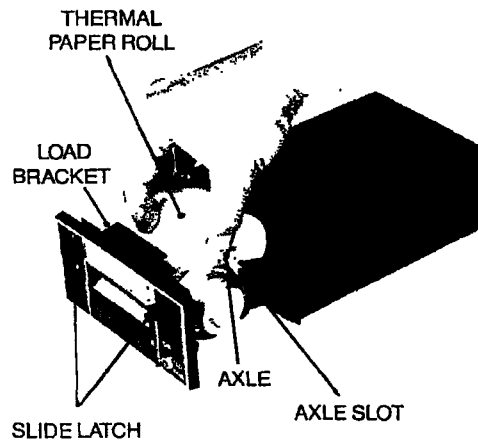

Figure 3-1. Loading Internal Printer Paper
2. Depress both front panel slide latches (Figure 3-1) and pull printer mechanism out of housing until mechanism stops.